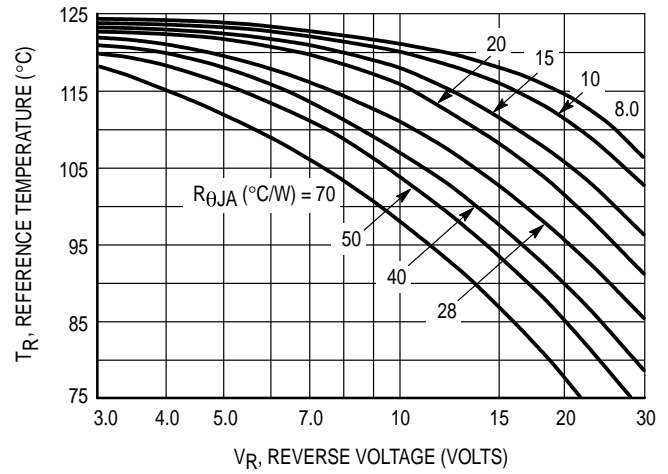

Figure 2. Maximum Reference Temperature
Step 2. Find T_R from Figure 2. Read $T_R = 108^\circ\text{C}$